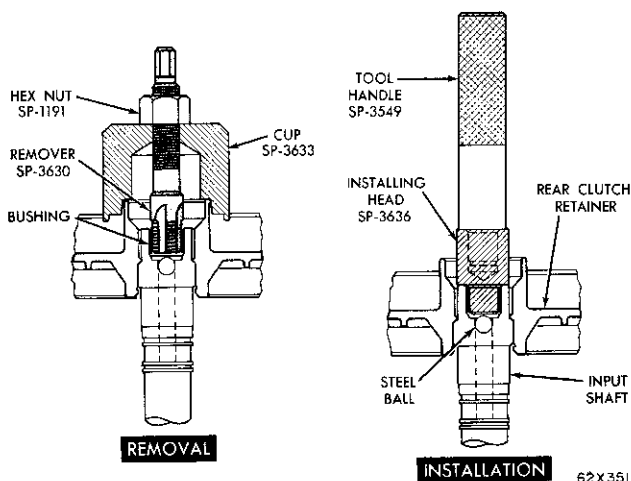

Fig. 76—Replacing Input Shaft Bushing
(1) Clamp the input shaft in a vise with soft jaws, being careful not to clamp on the seal ring lands or journals.
(2) Assemble the remover Tool SP-3630, the cup Tool SP-3633, and the hex nut Tool SP-1191.
(3) With the cup held firmly against the clutch piston retainer, thread the remover into the bushing as far as possible by hand (Fig. 76).
(4) Using a wrench, screw the remover into the bushing 3 to 4 additional turns to firmly engage the threads in the bushing.
(5) Turn the hex nut down against the cup to pull the bushing from the input shaft.
(6) Thoroughly clean the input shaft to remove the chips made by the remover threads. Make certain the small lubrication hole next to the ball in the end of the shaft is not plugged with chips. Be sure no chips are lodged next to the steel ball.
(7) Slide a new bushing on the installing head Tool SP-3636, and start them in the bore of the input shaft.
(8) Stand the input shaft upright on a clean smooth surface and install handle Tool SP-3549 in the installing head (Fig. 76). Drive the bushing into the shaft